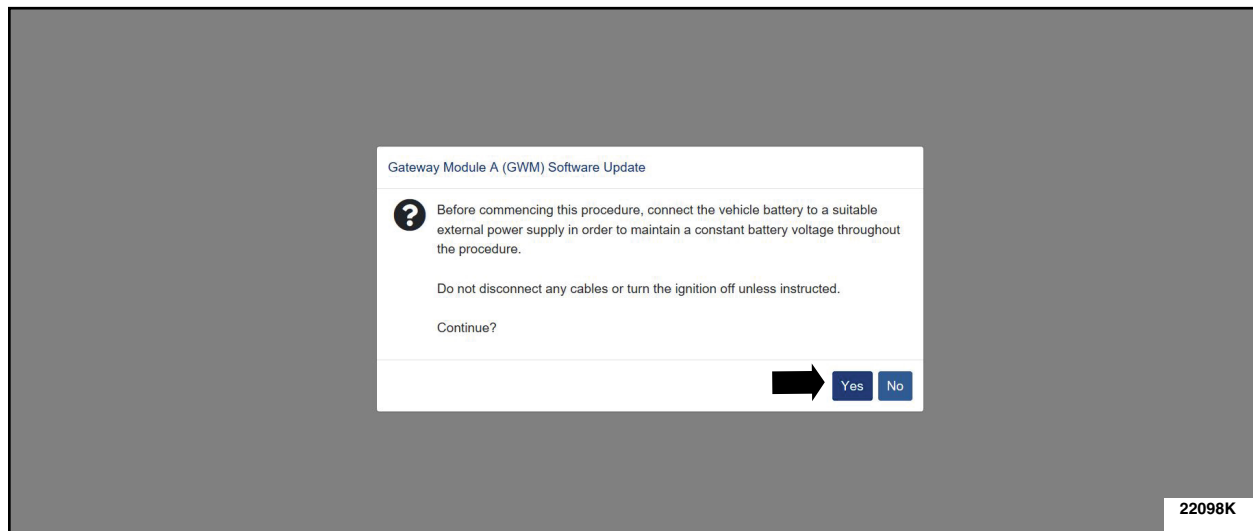

FIGURE 8
10. Verify that the vehicle is connected to a battery charger. Click yes and follow all on-screen instructions carefully. See Figure 8.